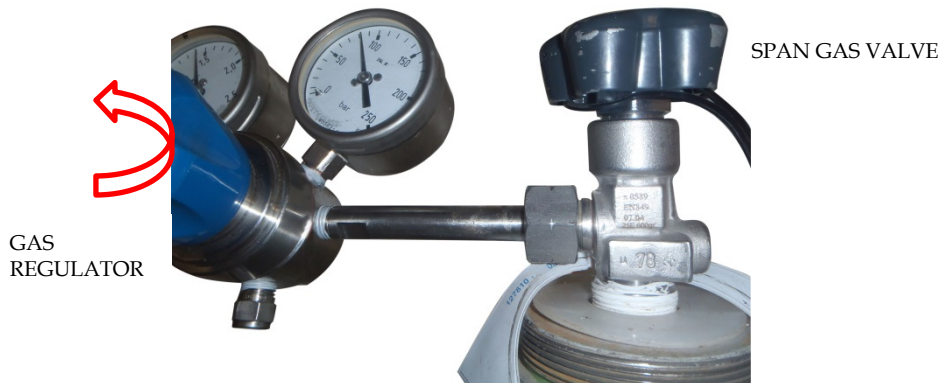

Figure 10 Valve and regulator on span gas cylinder
- 14) Make sure the gas regulator (refer to Figure 10) is fully closed.
- 16) Open span gas valve on the cylinder and carefully open gas regulator (several turns clockwise) until flowmeter, FI-01, under AC (refer to Figure 10) shows 1.5 l/min.